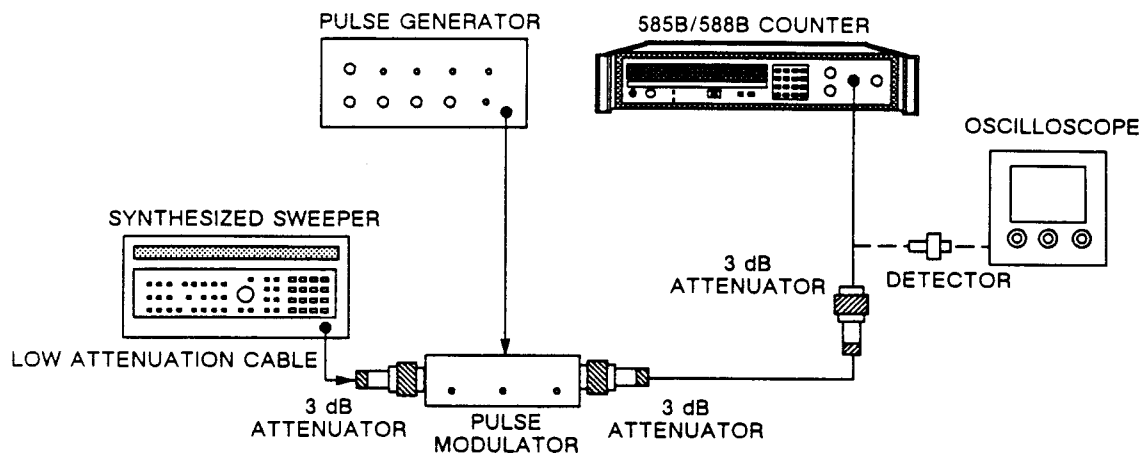

Figure 8-19. Pulse Period Accuracy Test Setup.
1. Connect equipment as shown in Figure 8-19. The 3 dB attenuators should be at IN and OUT ports of pulse modulator, and input to counter. Turn equipment on.